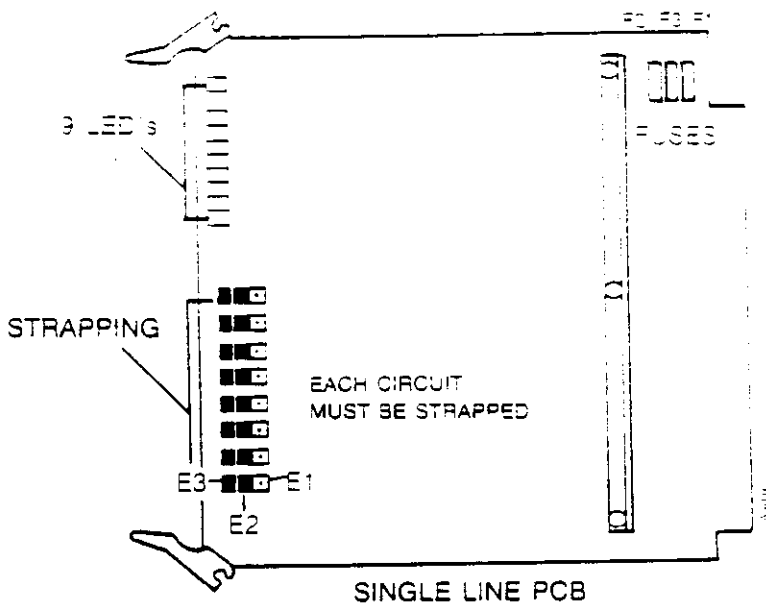

Figure 9 B-8SLU-B PCB
4.11 One B-8SLU-B PCB is required to serve the maximum of eight extensions. The PCB must be strapped in the 213 position to indicate that single line telephones are used (Figure 9). The SLU PCB can be inserted in any station position in the main or expansion cabinet (if used). However, it is recommended that the PCB be inserted in a position where one 25-pair cable out of the KSU serves all 8 station ports. This prevents cross connecting two station blocks to access the 8 OPXs.